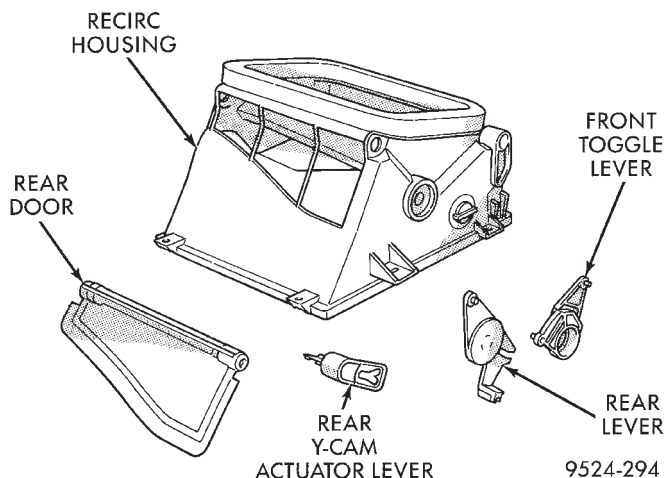

**Fig. 81 Rear Air Inlet Door**
- (10) Unsnap and remove rear air inlet door (Fig. 81).